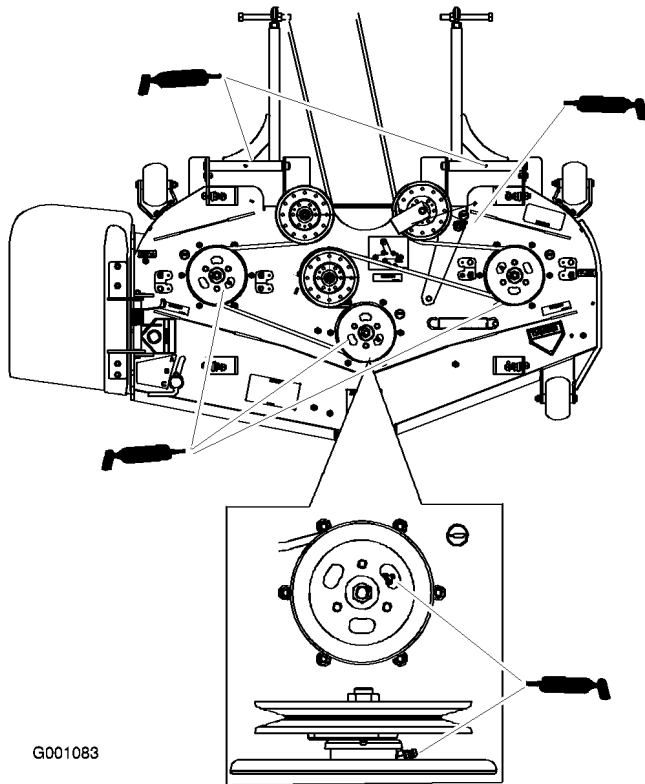

Figure 36
4. Grease the three spindle bearings under the pulleys until grease comes out the lower seals (Figure 36).
5. Grease the idler arm on the mower deck (Figure 36).
6. Grease the fittings on the push arms (Figure 36).